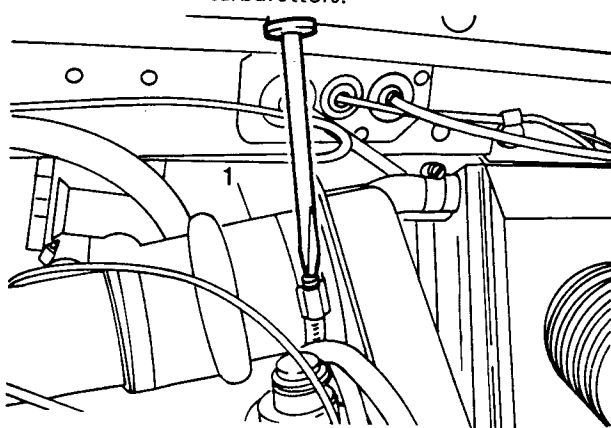

Fig B4.30
(22) Refer to Fig B4.30. Reconnect the hose (1) between the air cleaner and the air intake box.
(23) Refit the gearbox tunnel cover (see Sub-section M3, Chapter 5).
(24) Replace the grille panel (see Sub-section M3, Chapter 6) and radiator (see Sub-section E4, Chapter 1).
(25) Reconnect the battery earth lead (see Sub-section O5, Chapter 3).
(26) Refill the engine with the correct grade of oil.
(27) Replace the bonnet (see Sub-section M3, Chapter 1).